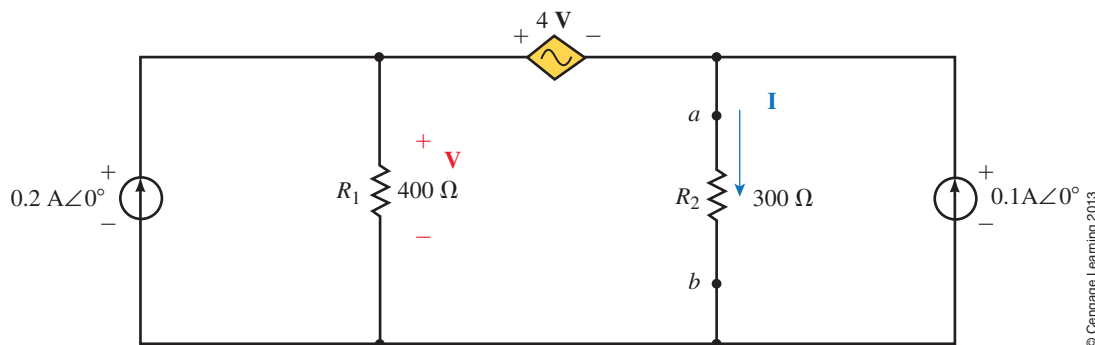

FIGURE 20–79
18. Determine the current \mathbf{I} for the circuit of Figure 20–79.
19. Find the Thévenin equivalent circuit external to the load impedance of Figure 20–68.